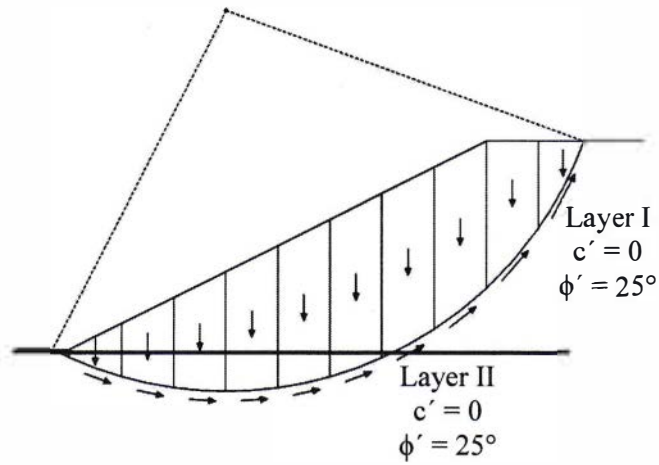

Figure 5a
- (i) Estimate FS for the condition demonstrated in Fig. 5a. 15